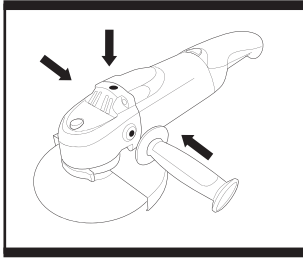

Fig. 1
1. FITTING THE AUXILIARY HANDLE (Fig. 1)